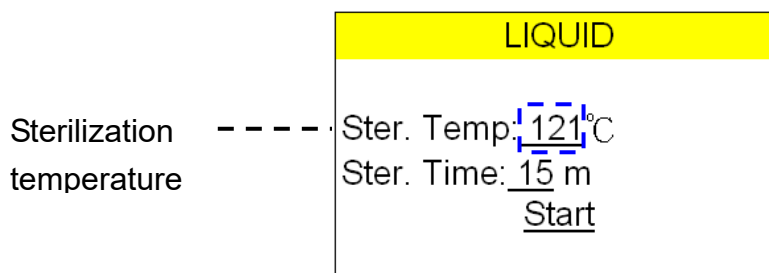

Figure 57
- Press  button to store sterilization temperature parameter as shown in Figure 57.